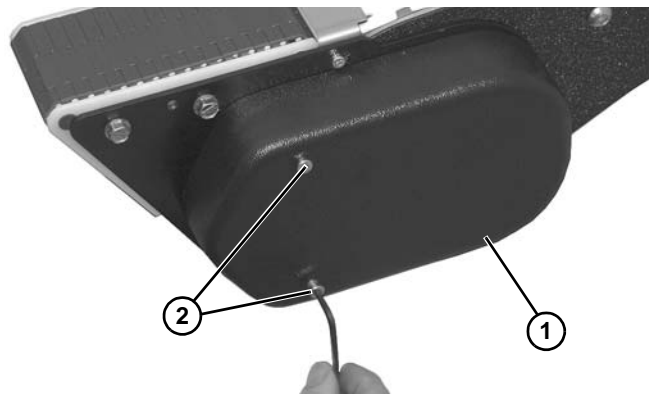

Figure 127
11. Install cover (Figure 127, item 1) with two hex head screws (Figure 127, item 2).